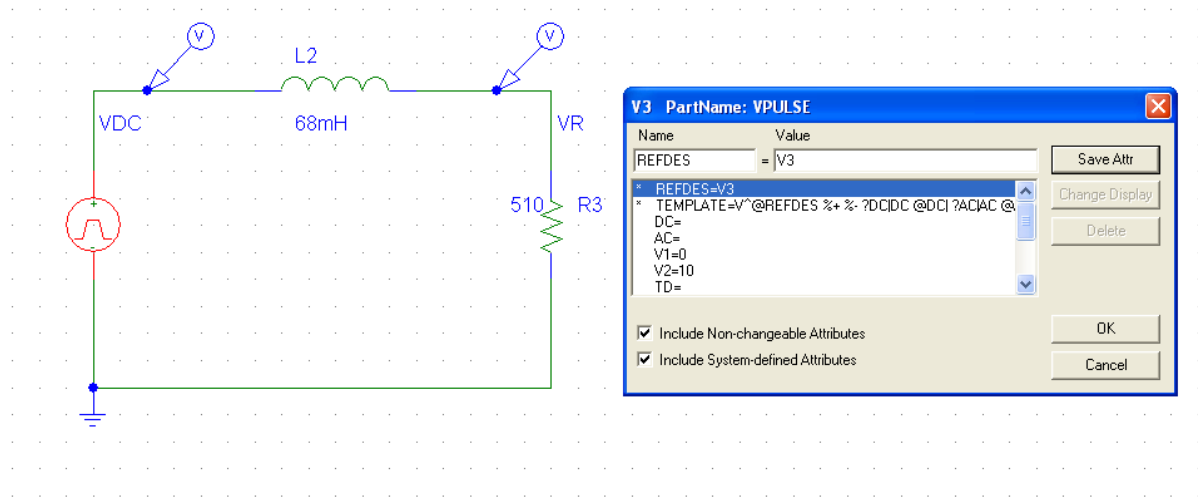

Figure 9.2 – R-L P-Spice Circuit
4. Using the **r**, **L**, **VPULSE**, and **GND_EARTH** components, enter into P-Spice the R-L circuit shown in Figure 9.2 and configure the **VPULSE** source as shown below: